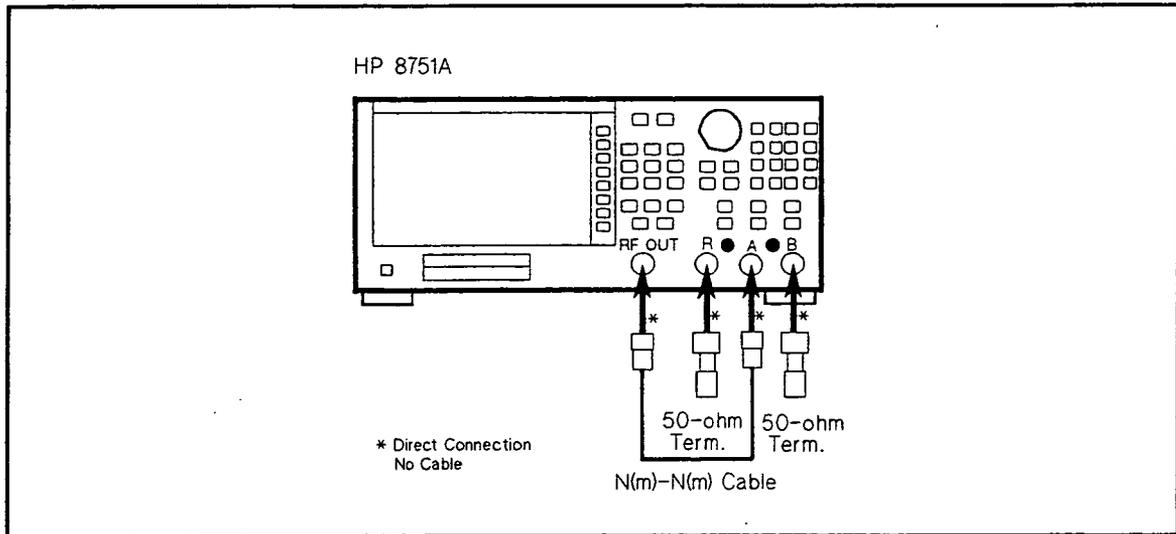

Figure 2-13. Crosstalk Test Setup 2
- a. Connect the equipment as shown in Figure 2-13.